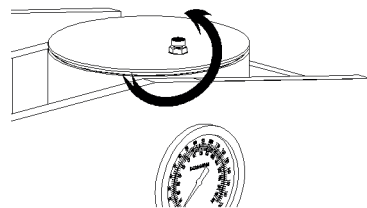

Fig.15
2. loosen the exhaust Screw by turning it anticlockwise.(Refer to Fig.15)